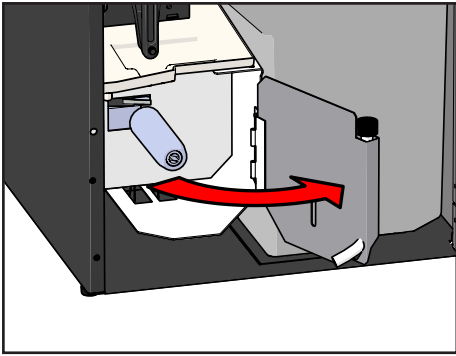

Figure 74. Open the paper holder door
8. Open the paper holder door (see Figure 74).